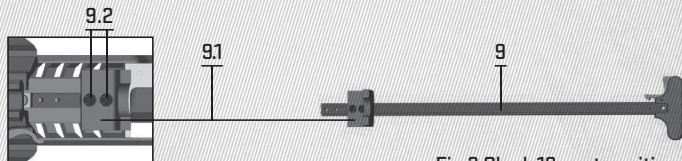

Fig 3 Glock 19 - set position
- Place the Slide Drawer in backward position as shown in Fig. 3 and fasten the Slide Drawer's Screws (9.2).